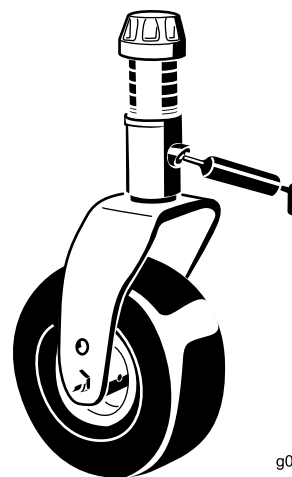

Figure 47
- 1 caster-fork-shaft bushing (Figure 47)